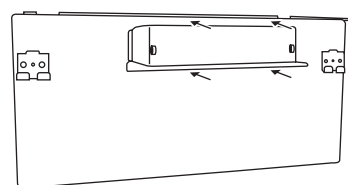

Fig.3
- (3) Fit the ducting flange using the four supplied 4×10 PTT screws (see Fig.3)